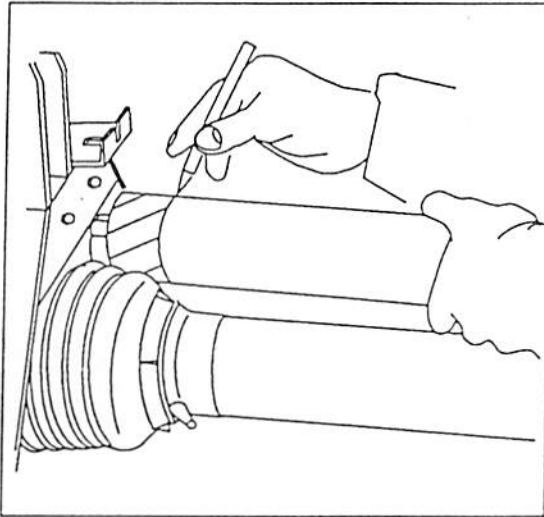

Fig.4.
- Connect one shaft half to the chipper's PTO and the other half at the tractor's PTO. Lay the other PTO half on its side so that the end of the shaft is one inch from the PTO—end of the chipper. Mark lengths required. The tubes must be shortened so that they cannot reach the bottom when the chipper is lifted or lowered. Cut the plastic shield. See fig.4.—5.